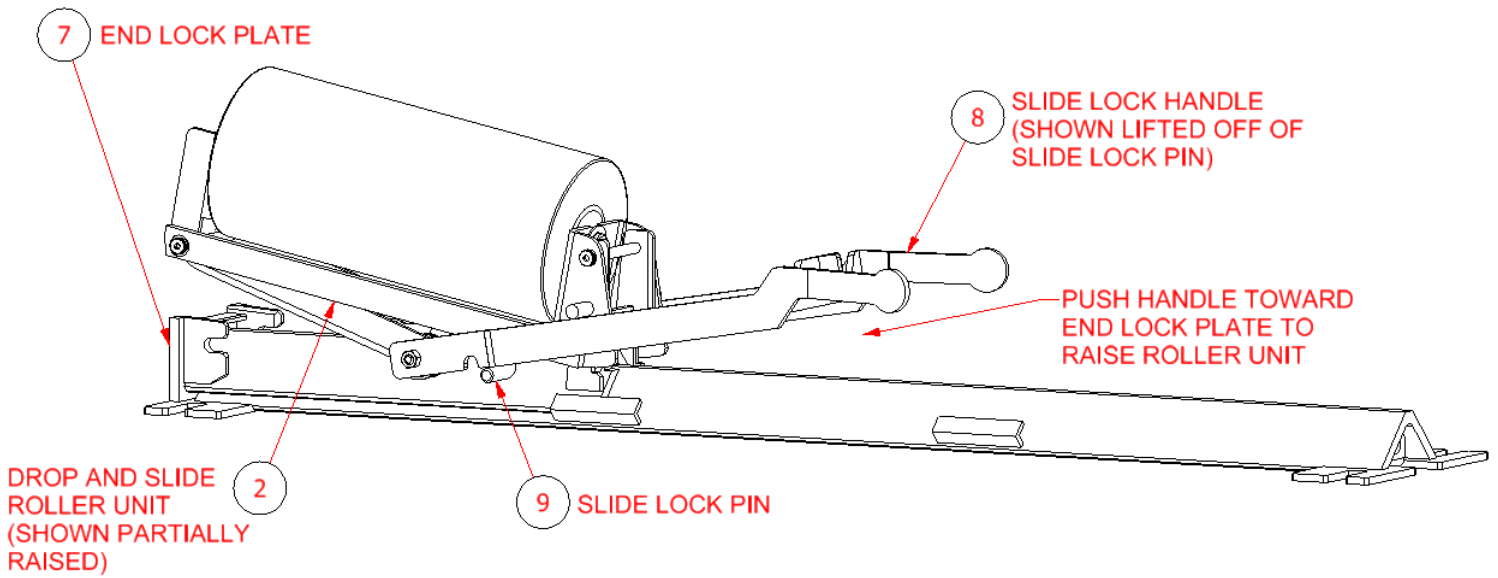
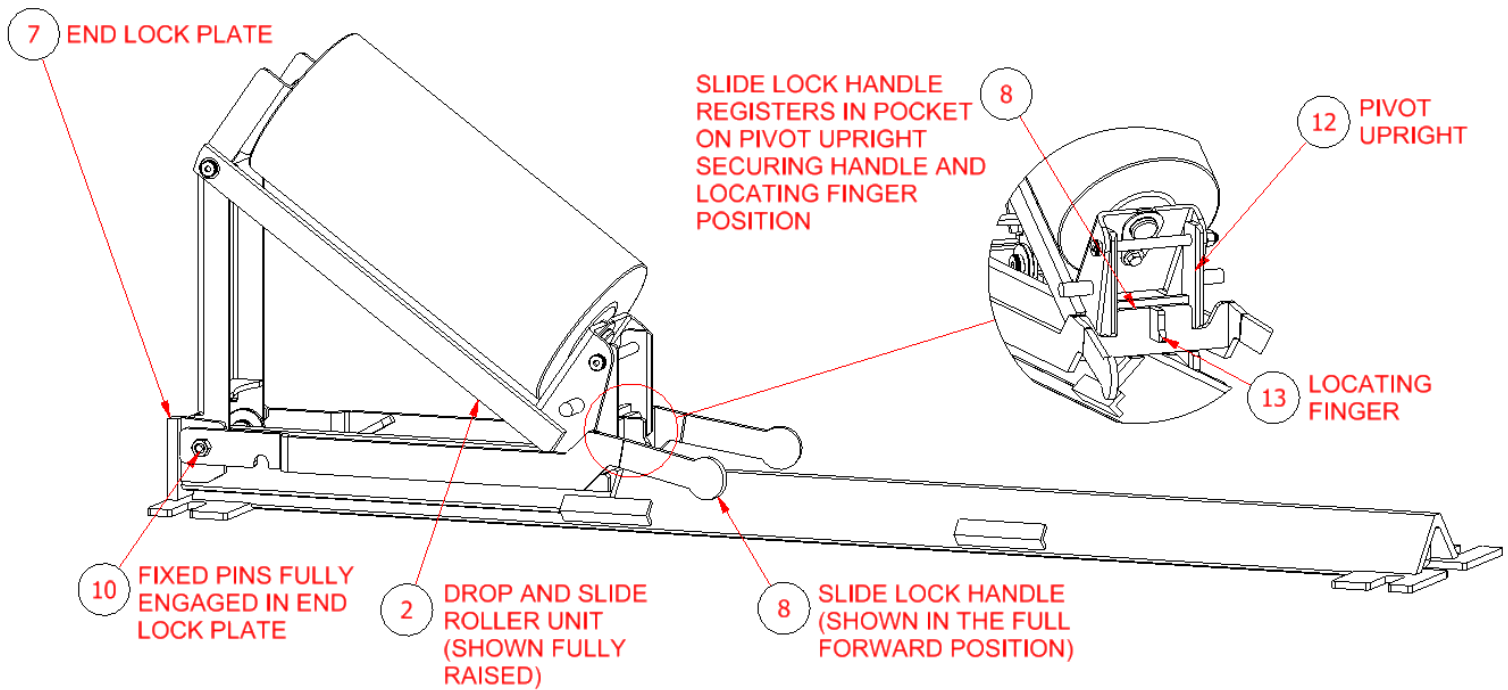

Figure 4
Figure 5
- With the Drop and Slide Roller Unit (2) fully stopped against the End Lock Plate (7), lift the Slide Lock Handle (8) such that it disengages from the Slide Lock Pin (9) and push the handle forward as illustrated in Figure 4 above. Continue pushing on the handle until the unit is in the fully upright position as illustrated in Figure 5 below.